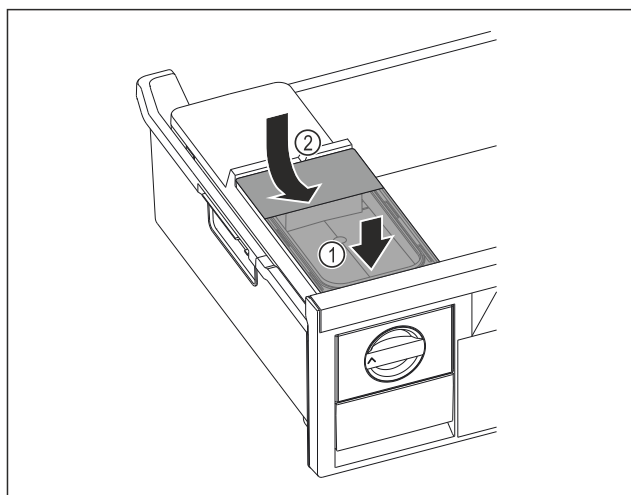

Fig. 113
- Position the water tank at the front. Fig. 113 (1)
- Lower the water tank at the rear. Fig. 113 (2)